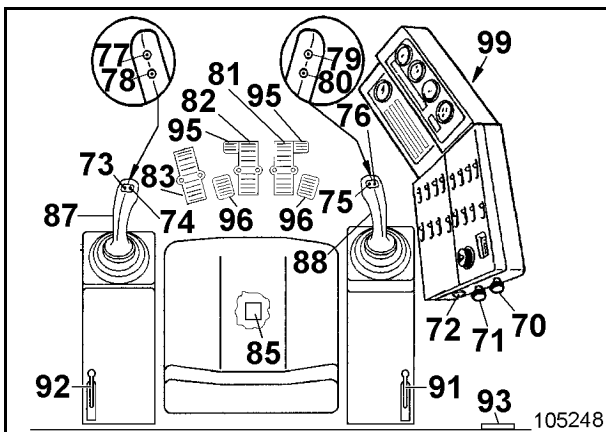

Fig. 2-52:
- pedals (81 and 82, Fig. 2-52:) and